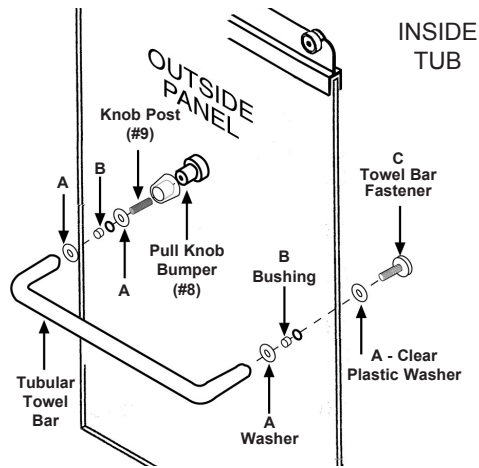

Figure 8
- E. To complete installing the Tubular Towel Bar Kit (#7), screw a Knob Post (#9) into the end of a Pull Knob/Bumper (#8) and place the Pull Knob/Bumper (#8) over the Knob Post (#9) and onto the Pull Knob/Bumper (#8) (See Figure 8).